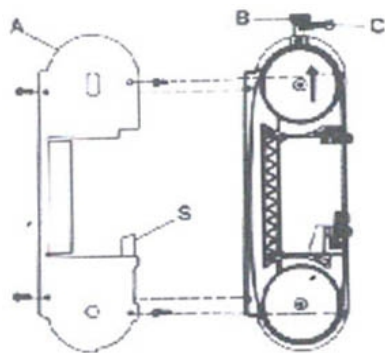

Fig.1
1. Adjusting the blade tension (Fig.1)
- Slacken the blade tension, turning knob C (fig.1) clockwise until it stops, and handwheel B anticlockwise.
- Replace protective casing A, being careful to insert the blade between the straps of the protection S (see fig.1).